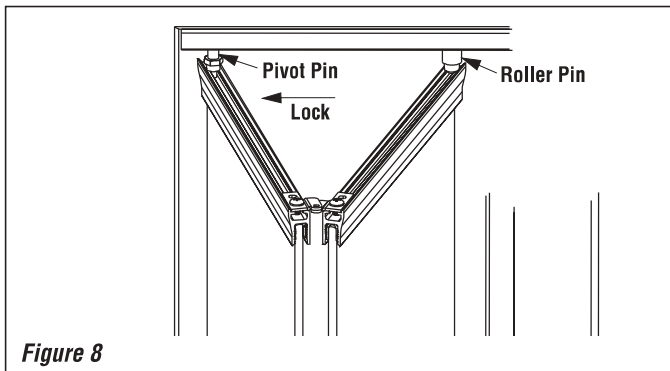

Figure 8
Step 3. Carefully move the top edge of the door assembly until the upper pivot pin and upper roller pin are inside the upper guide track of the firebox frame (**Figure 8, below**).